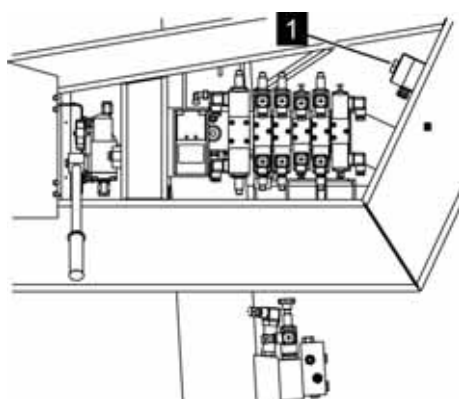

Fig. 114: Service operation button
5. ➤ Person 1: Hold the button (Fig. 114/1) for service operation down during operation.